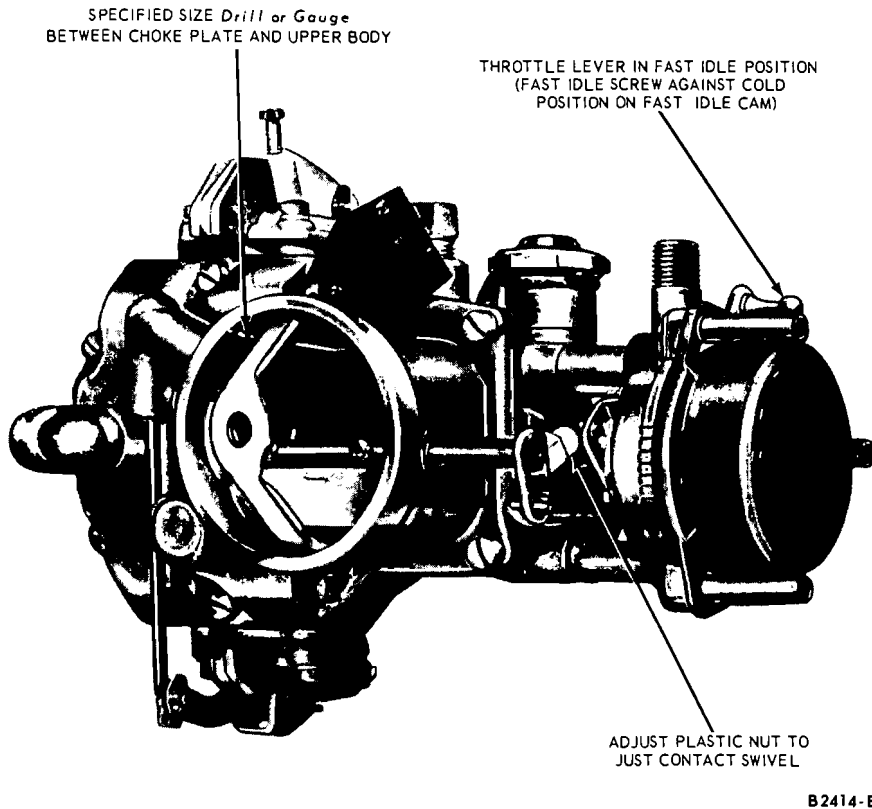

FIG. 14—Choke Plate Clearance (Pull-Down) Adjustment—Autolite Model 1100 1-V
1. Insert a gauge pin or drill of the specified clearance (Part 10-11) thickness between the throttle plate and the side of the throttle bore. Hold the throttle plate against the gauge pin or drill (Fig. 14). Close the choke plate and turn the fast idle
same thickness as the specified clearance (Part 10-11) between the choke plate and the upper body wall (Fig. 14). Close the choke plate on the drill or gauge and hold it securely.